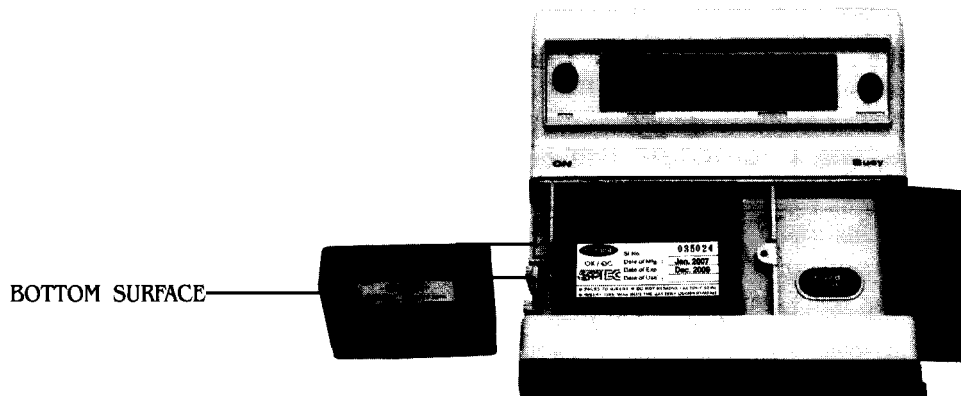

Fig.20 Installing the Power Pack
11. Open the cover of the candidate set section by pressing slightly inward the latch provided on the left side. Install the power pack specially supplied by mating the socket of the power pack to the plug. Ensure that power pack is pressed tight (Fig. 20).